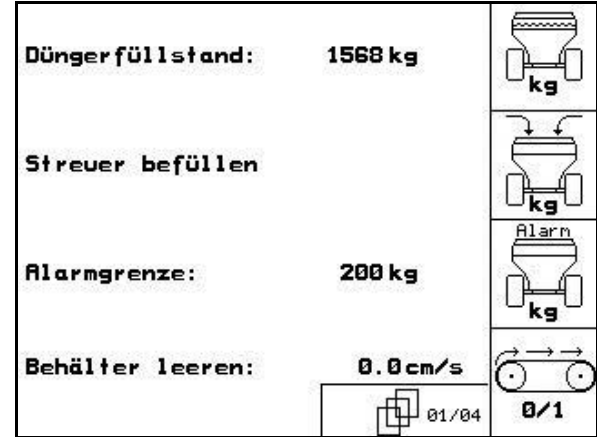

Fig. 18
Sayfa 1 01/04 (Fig. 18):
- ZG-B Drive:** (Fig. 18)